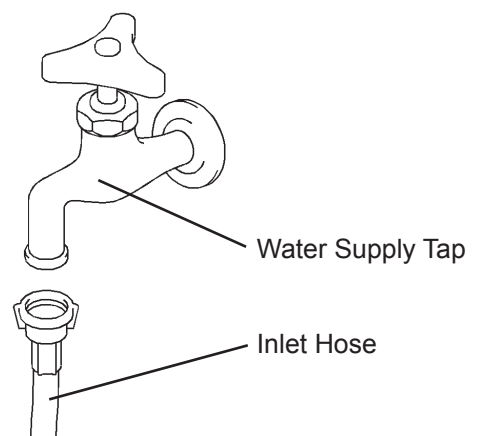

Fig. 31
- 4) Close the water supply tap, and remove the Inlet Hose. See Fig. 31.